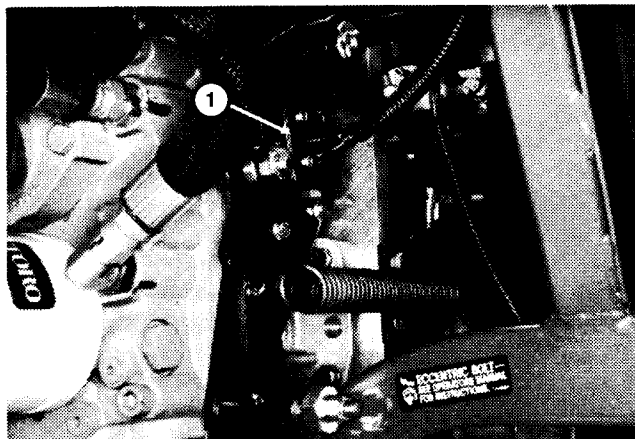

Figure 37
1. Remove the two wires that are connected to the traction switch (Fig. 37).
2. Have a helper push the traction pedal down into either the FORWARD or REVERSE position; this will take the switch arm tension off of the switch. Loosen two (2) screws and remove the switch.